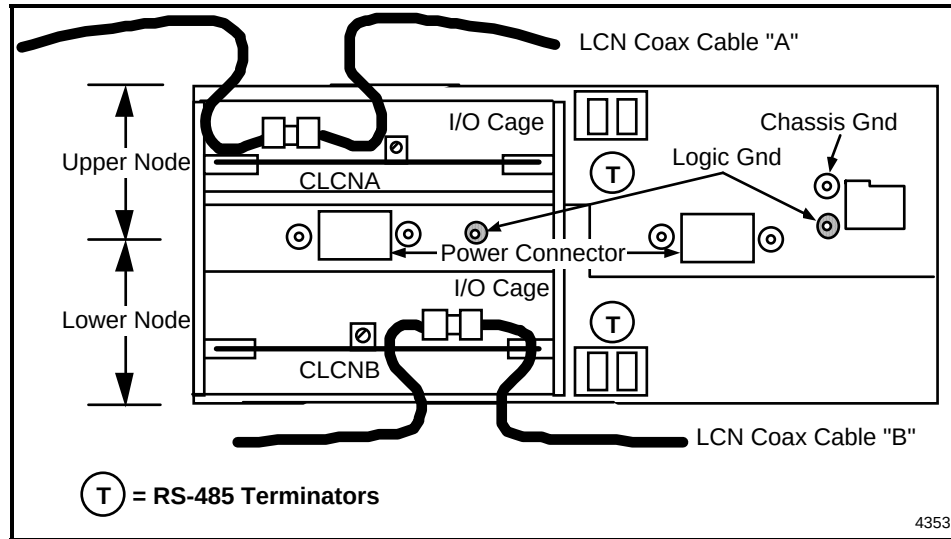

Figure 2-2— Rear View of Dual Node Module
Table 2-1 illustrates the basic (minimum) module configurations for single- and double-node modules. The Application Module (AM) uses the basic configuration. Other module types require additional boards, as covered in subsection 2.3. Figure 2-2 is a rear view of a Dual Node Module showing the LCN A and LCN B coaxial cable interconnects and the RS-485 terminator assemblies that are installed on the backpanel at the top and bottom ends of the RS-485 signal conductors. Four terminator assemblies are required—two at the top and two at the bottom of the backpanel.